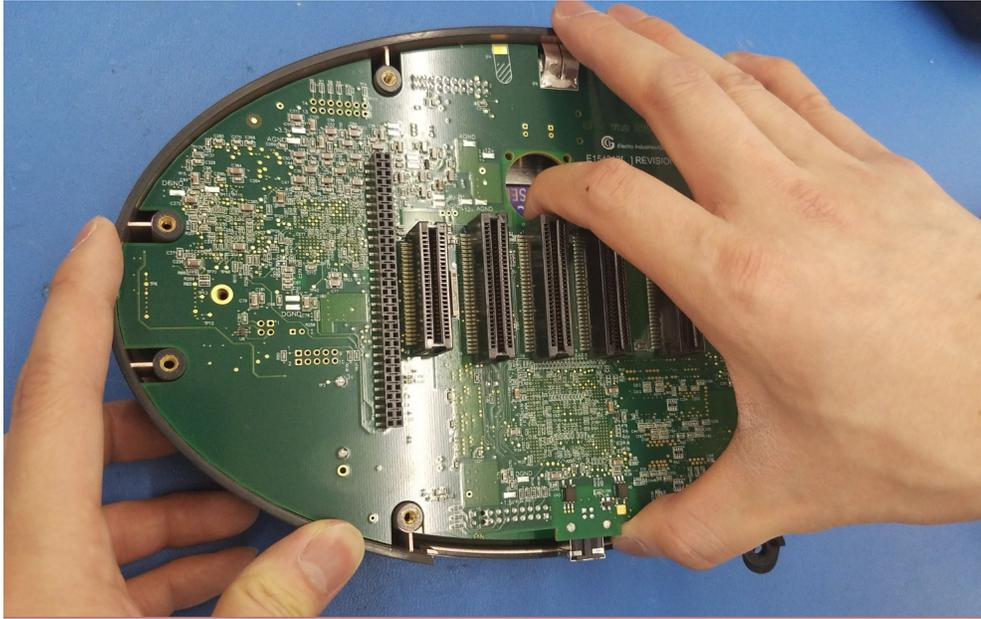

Figure 3.8: Holding the Front Panel and Digital Board
6. With one hand on the front panel and the other on the digital board, carefully separate the front panel from the digital board. See Figures 3.8 and 3.9.